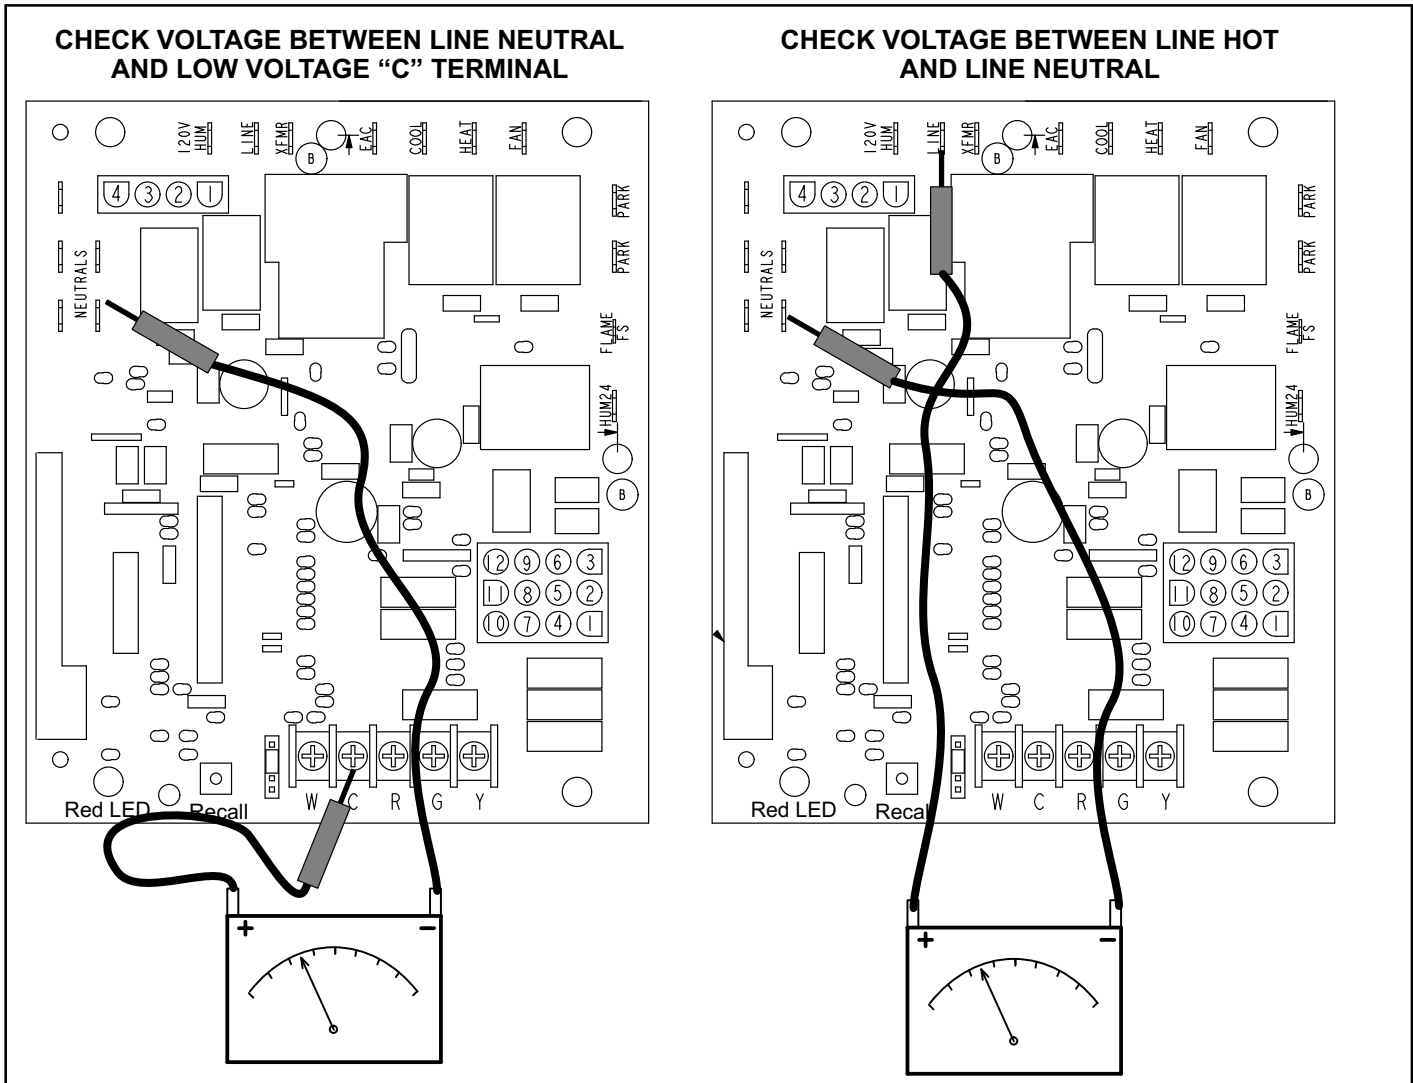

FIGURE 58
- 1 - Measure the AC voltage between Line Neutral (spade terminals) and "C" terminal (low voltage terminal block) on the integrated control. See figure 58. A wide variation in the voltage between Line Neutral and "C" as a function of load indicates a poor or partial ground. Compare the readings to the table below. If the readings exceed the maximum shown in table 1, make repairs before operating the furnace.
- 2 - In addition, measure the AC voltage from Line Hot to Line Neutral (spade terminals) on the integrated control. See figure 58. This voltage should be in the range of 97 to 132 Vac.
Note - Figure 58 is a typical ignition control illustration.